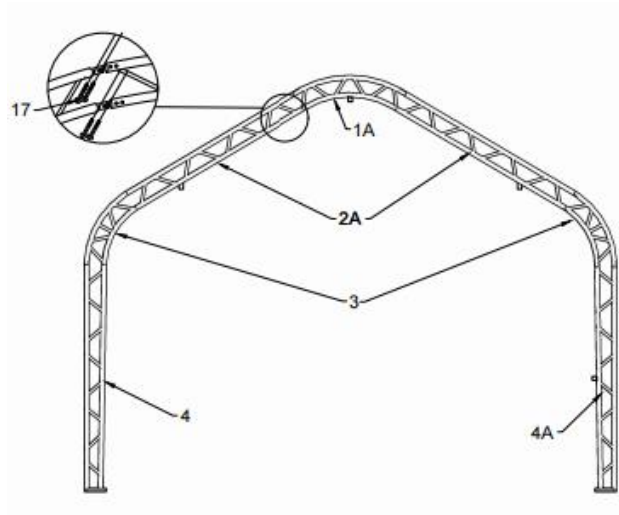
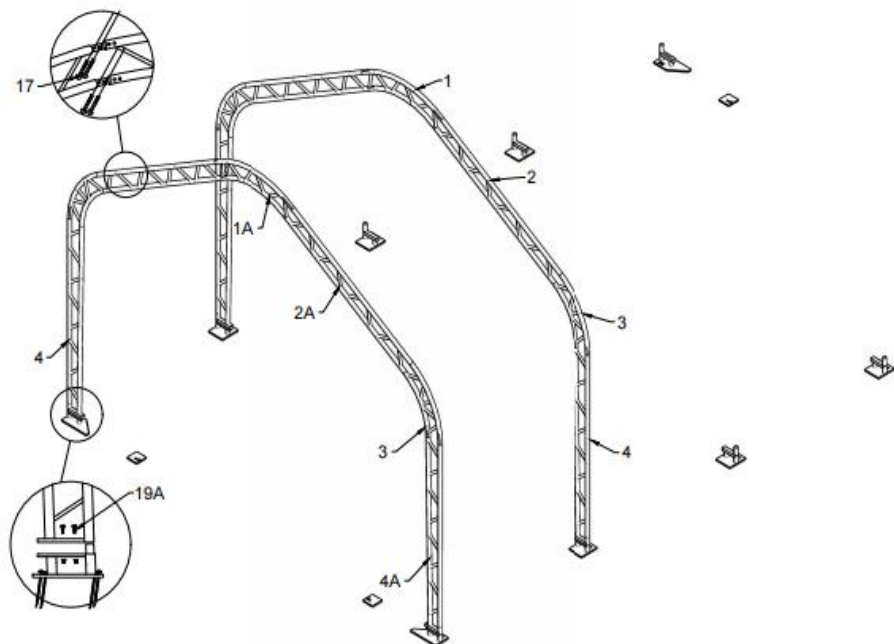

Figure 3
Figure 4
1. Figure 4 shows to connect the Roof bent tube for front and back door (No.1A), Sidewall bent tube for front and back door (No.2A), Shoulder bent tube (No.3), Standing leg (No.4) and Standing leg for front door and back door (No.4A) with Carriage bolt M8*60 (No.17), then put the arch into tube of the Base plate by using the bolt 12*30 (No.19A) by hoist (see Figure 3)
2. Figure 4 shows to connect the Roof bent tube (No.1), Sidewall bent tube (No.2), Shoulder bent tube (No.3), and Standing leg (No.4) with Carriage bolt M8*60 (No.17), then put the arch into tube of the Base plate by using the bolt 12*30 (No.19A) by hoist, and assemble every group arch by turns (see Figure 4)